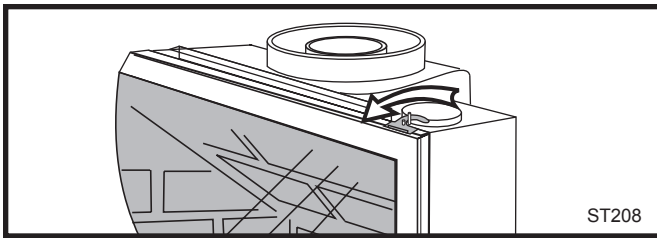

Fig. 58 Release the latches to release the glass frame.
1. Remove stove front. Lift stove front up and then swing bottom out and away to disengage from the stove body. (Fig. 58, Page 30)
Replace glass only with MHSC approved parts. Refer to Page 33 for Replacement Parts. Refer to Figure 58 and previous instructions for removal of the damaged glass frame.
1. Remove the Front, Glass Frame and Glass Panel. (Figs. 58 & 59) Remove the old gasket. Use a razor blade to separate the glass and gasket from the frame, and to clean the glass of any remaining cement or bits of gasket. Use a cold chisel if necessary.